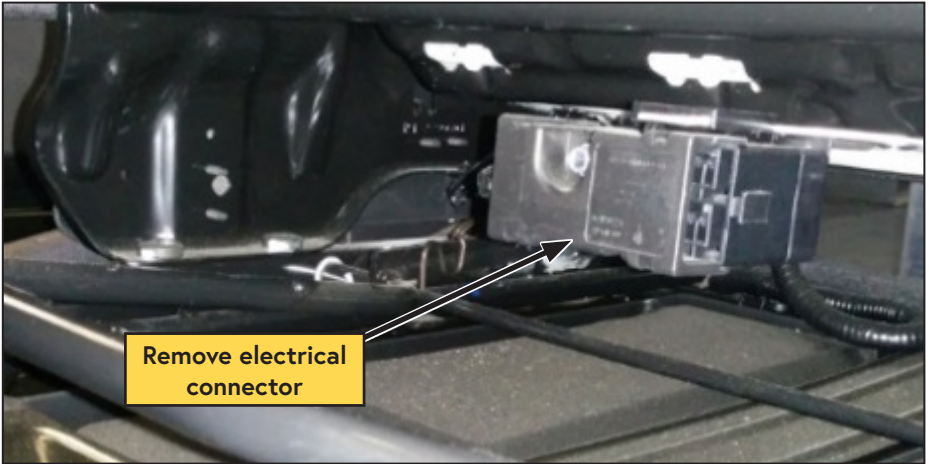

Figure 6 — Seat electrical connector
- Remove the seat electrical connector (Figure 6).